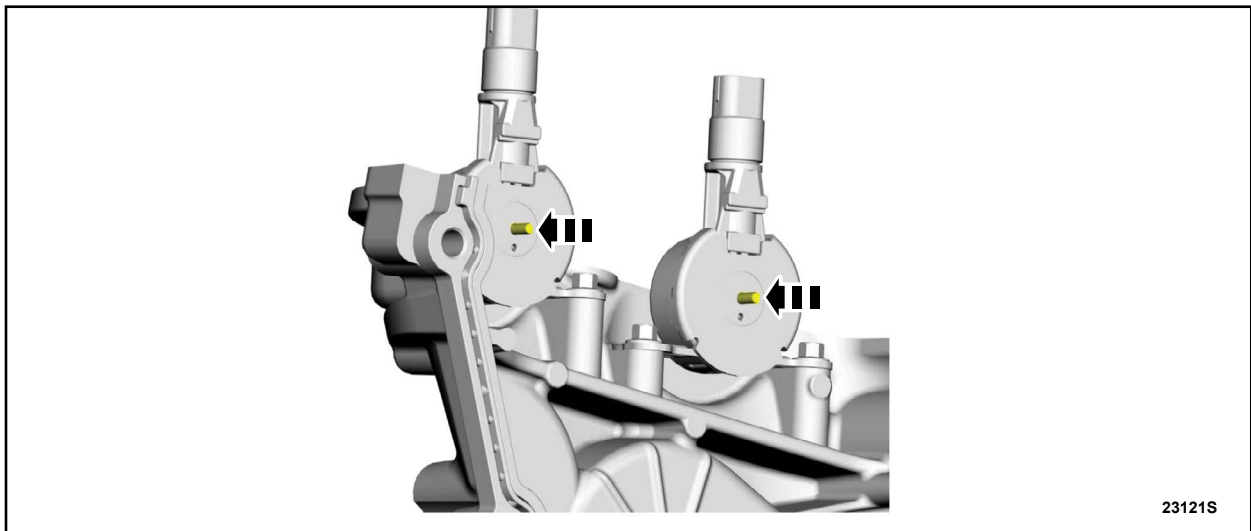

FIGURE 39
22. Fully depress the VCT variable force solenoid pins. See Figure 39.